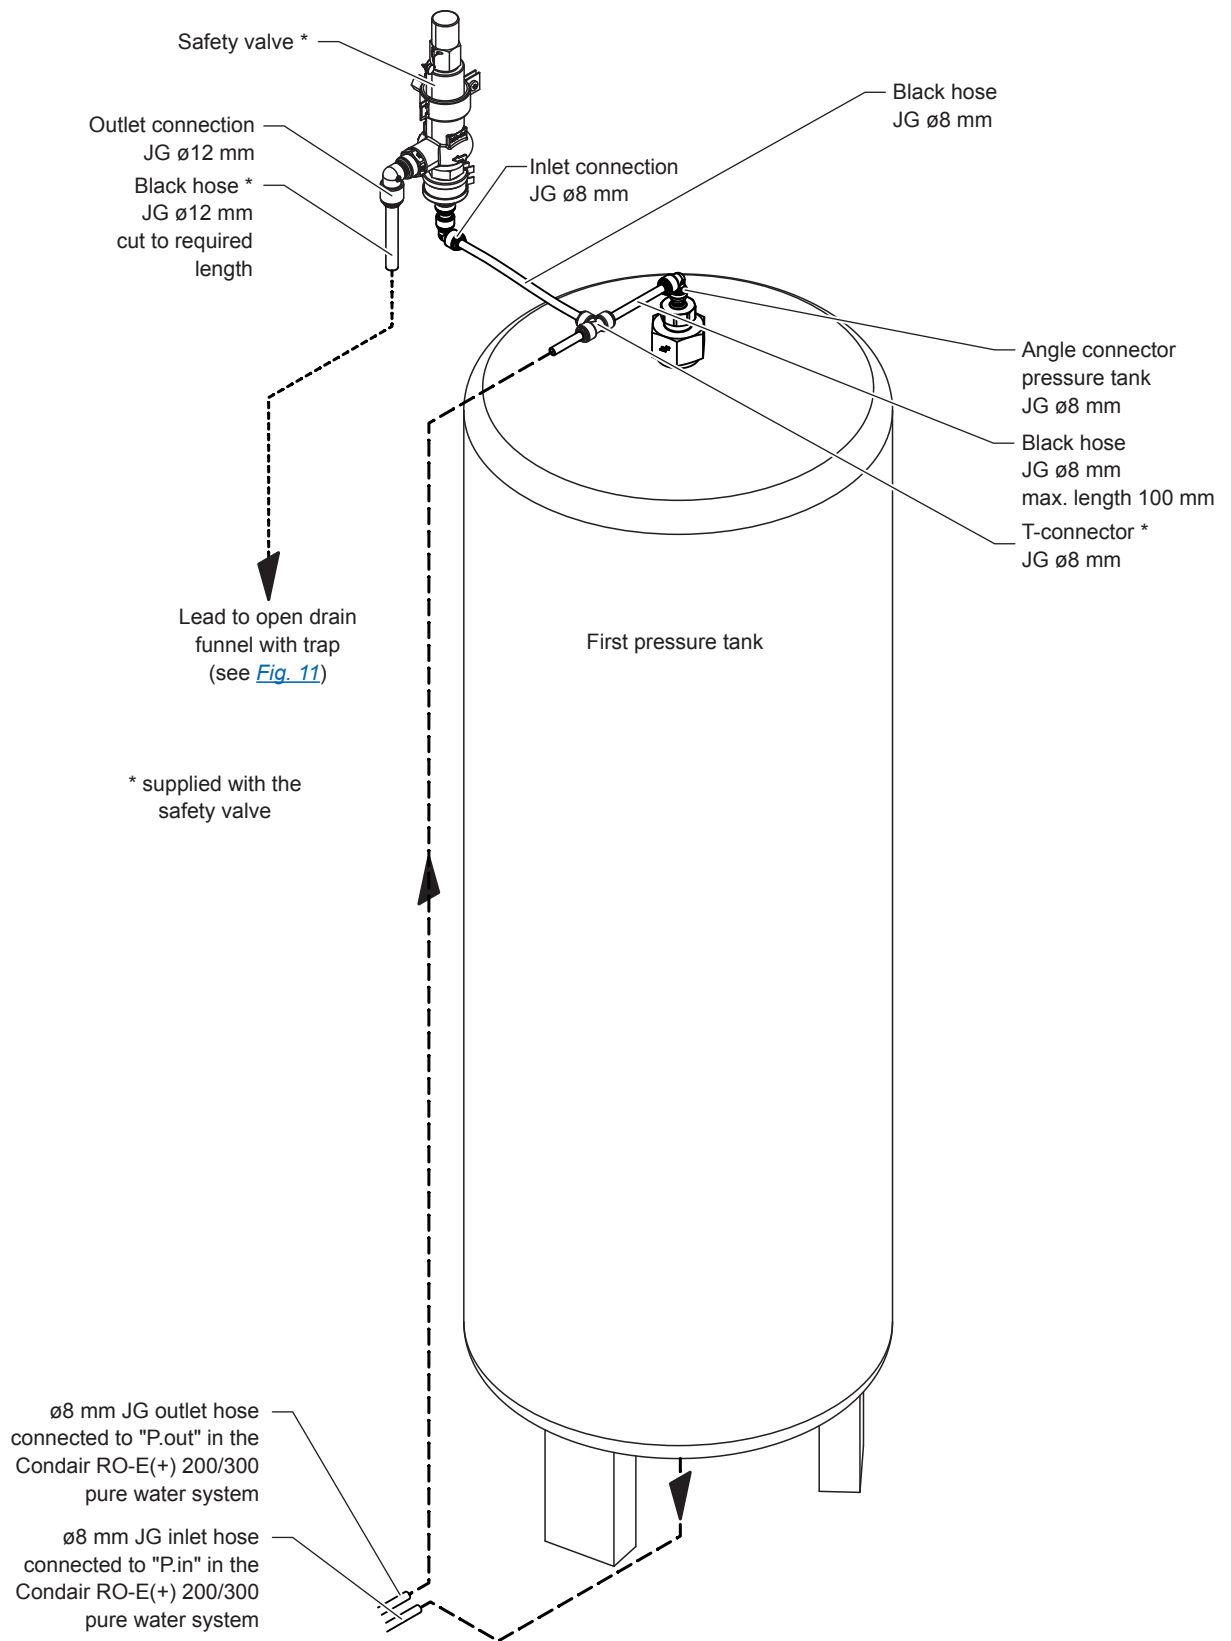

Fig. 17: Connecting the pressure tank safety valve to the Condair RO-E(+) 200/300 pure water systems
2. Connect the open hose ends of the cut hose to the $\varnothing 8$ mm JG T-connector as shown in Fig. 17.